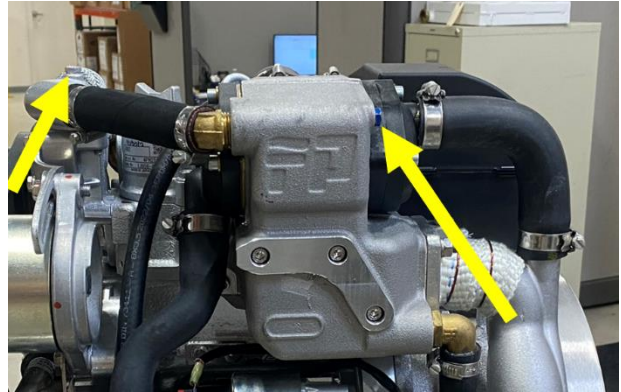

Figure 29: Coolant bleed screws
5. Watch bleed points, see Figure 29, until only coolant is flowing (no bubbles). The thermostat bleed point will bleed first (left arrow below) then heat exchanger bleed point (right arrow below).